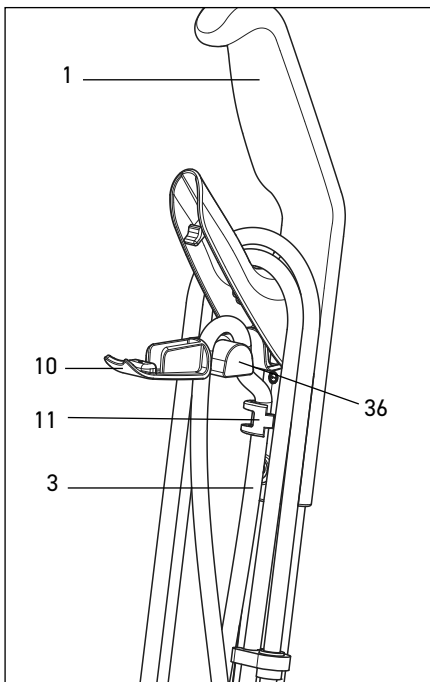
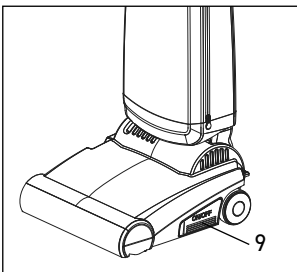

Figure 5
Figure 7
Step 5 (figure 5): Open the strain relief catch (10) in the handle grip (1). Insert the cable (3) into cable guide (11) and the strain relief (36), looping as shown, with some slack toward the machine. When closing the strain relief catch, the additional length distributes itself automatically or can be reduced by pulling gently.
1. Turn the quick release cable hook (12) to the up position by moving it to the left or right (figure 5).
2. Release the power cord plug from the cord and lift the cord off of the upper cord hook (37) on the handle grip.
3. With the on/off button (9) in the OFF position (figure 7), plug the polarized power cord into a 120 volt outlet located near the floor.
4. Gently push the on/off button (9) with your foot or hand to turn it on. Gently push again to turn it off.